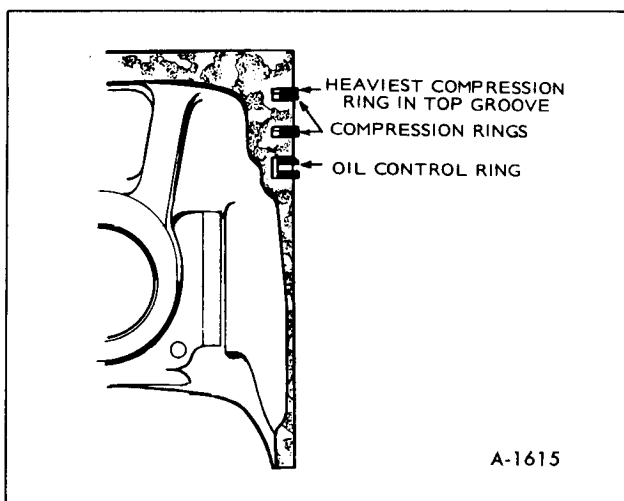

Figure 26-Piston Rings
3. Install the rings on the pistons starting with the oil control ring (figure 26). Use a piston ring spreader to prevent twisting or excessive expansion of the ring. Some oil control rings and all compression rings have a dot or the word "top" on one side of the